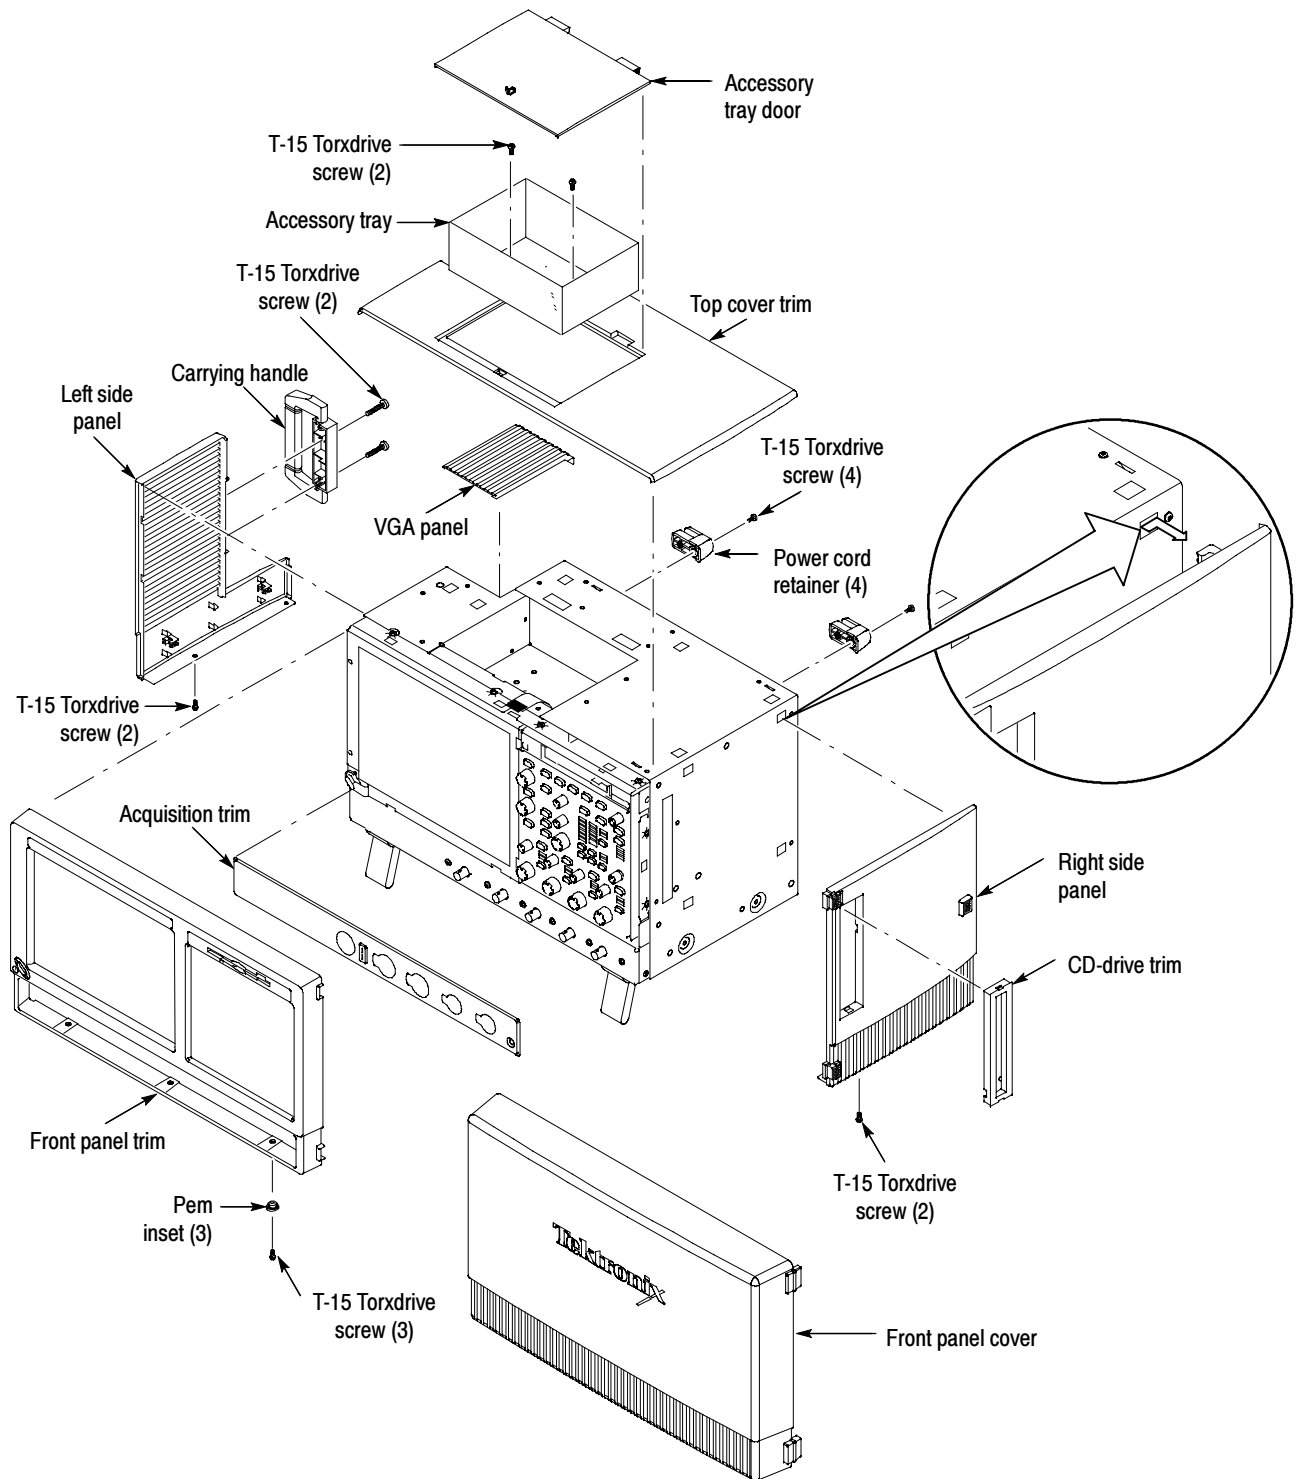

Figure 3: Trim removal
3. *Remove the feet and top cover:* Locate the Trim in the locator diagram. See Figure 3, page 9.
4. *Remove the right side panel:* Use Figure 3, page 9 as a guide. Remove the CD Drive trim by inserting a flat blade screwdriver in the bottom slot of the CD trim and gently prying the trim piece out of the side panel. Pull the trim up and out from the oscilloscope.
7. *Remove the VGA panel:* Remove the VGA panel by gently pulling the trim up and out from the oscilloscope. Refer to Figure 3, page 9 as a guide.